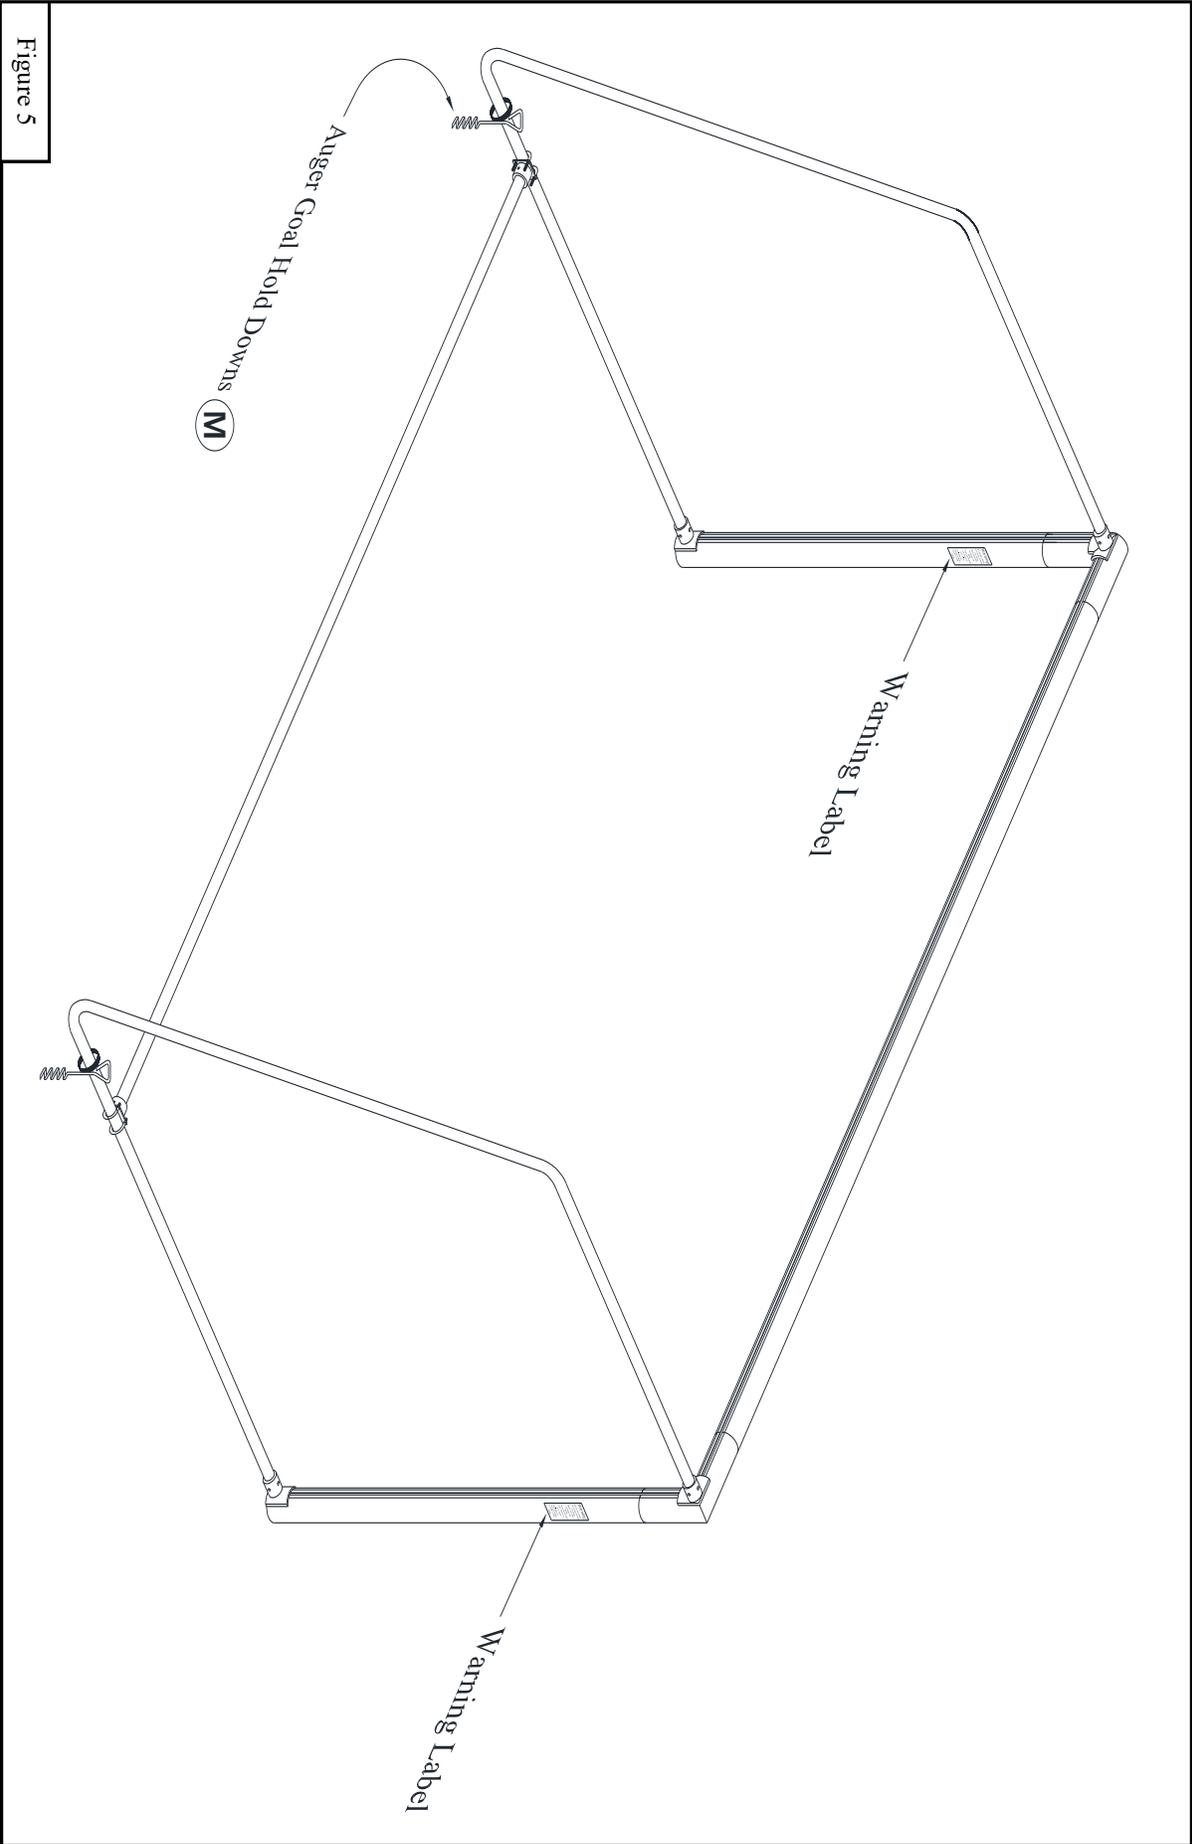

Figure 5
12. Prior to play, the rear of the goal must be secured to prevent accidental tip over. If your goal is being used on an artificial turf that is not compatible with the *Auger Goal Hold Downs* (M), goals must be weighted with rear ballast bags or by other methods. Consult a Bison Product Specialist for options.
13. Position the *Auger Goal Hold Downs* (M) near the rear radius of the left hand and right hand backstays. Once the augers are fully rotated into the ground, clip the chain around the side of the backstays. See Figure 5.